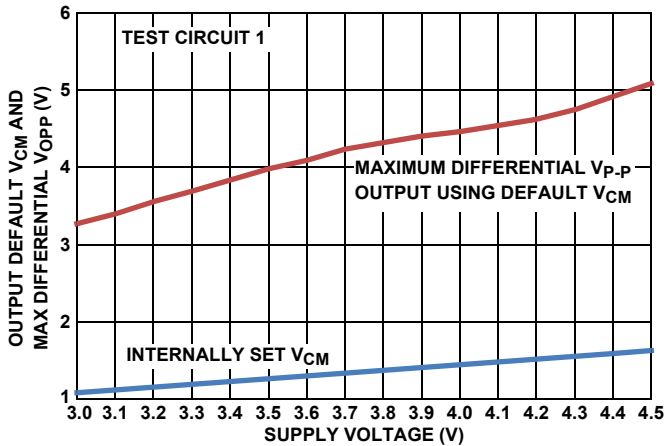
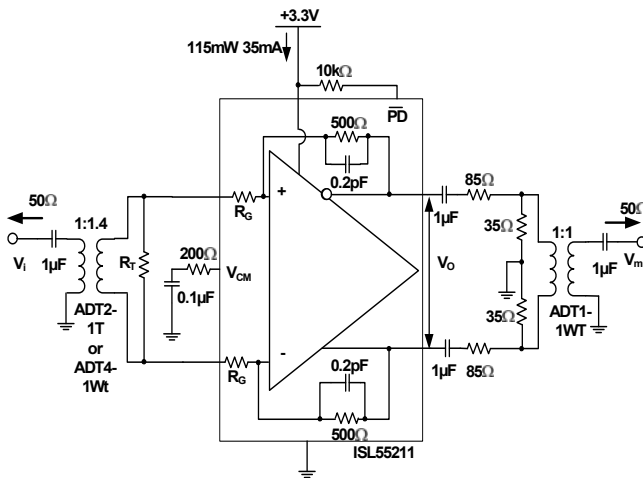
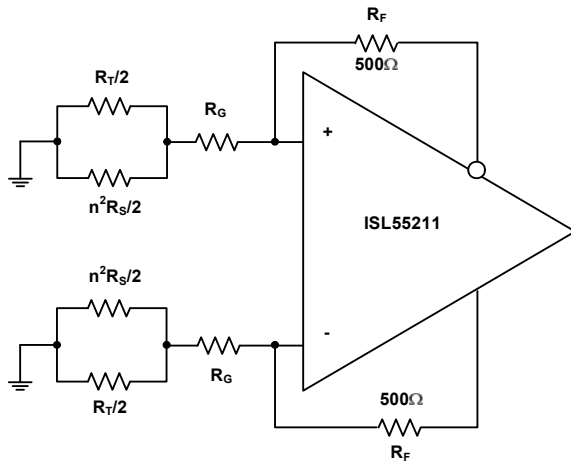
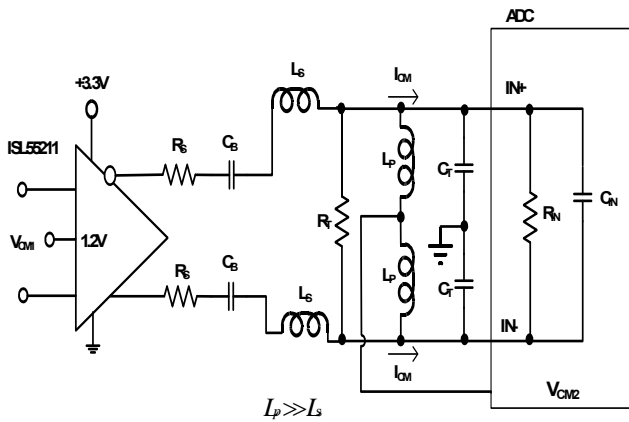

FIGURE 27. DEFAULT  $V_{CM}$  AND MAX  $V_{OPP}$  vs SUPPLY VOLTAGE
FIGURE 29. TEST CIRCUIT 1
FIGURE 35. NOISE GAIN MODEL FOR THE TRANSFORMER COUPLED INPUT CIRCUIT OF FIGURE 29
FIGURE 37. AC-COUPLED, HIGHER FREQUENCY RLC INTERSTAGE FILTER DESIGN
Test Circuit 1 of Figure 29 forms a starting point for many of the characterization curves for the ISL55211. Since most lab sources and measurement devices are single-ended, this circuit converts to differential at the input through a wideband transformer and would also be a typical application circuit coming from a single-ended source. Assuming the source is a 50Ω impedance, the internal  $R_G$  resistors and external  $R_T$  are set to provide both the input termination and the gain. Since the inverting summing nodes act as virtual ground points for AC signal analysis, the total termination impedance across the input transformer secondary will be  $(2 * R_G) || R_T$ . Setting this equal to  $n^2 * R_S$  will give a matched input impedance inside the bandwidth of the transformer (where "n" is the turns ratio). The amplifier gain is fixed by the selected input  $R_G$  element and the internal 500Ω feedback resistors. While the ISL55211 is internally a Voltage Feedback Design (VFA) to give the lowest possible noise, internal compensation caps hold the bandwidth over gain setting approximately constant at 1.4GHz. For wider small signal bandwidth at lower gains, consider the ISL55210, which provides >2.2GHz at a gain of 12dB.
Working with a transformer coupled input as shown in Figure 29, or with two DC blocking caps from a differential source, means the output common mode voltage set by either the default internal  $V_{CM}$  setting, or a voltage applied to the  $V_{CM}$  control pin, will also appear as the input common mode voltage. This provides a very easy way to control the ISL55211 I/O common mode operating voltages for an AC-coupled signal path. The internal common mode loop holds the output pins to  $V_{CM}$  and, since there is no DC path for an  $I_{CM}$  current back towards the input in Figure 29, that  $V_{CM}$  setting will also appear as the input common mode voltage. It is useful, for this reason, to leave any input transformer secondary centertap unconnected. The internally set  $V_{CM}$  voltage is referenced from the negative supply pin. With a single 3.3V supply, it is very close to 1.2V but will change with total supply voltage across the device as shown in Figure 27.
Most of the characterization curves starting with Figure 29 then get different gains by changing the connections to the two pairs of input  $R_G$  connections, as shown on the pin configuration drawing on page 2. Two input turns ratios are intended for Test Circuit 1; either a 1:1.4 turns ratio (ohms ratio of 2) or a 1:2 turns ratio (ohm ratio of 4). The specific transformers shown in Figure 29 are representative of broadband RF transformers but alternate devices and manufacturers of these turns ratio devices are certainly applicable. The output side of this test circuit presents a differential 200Ω load while converting the differential to single-ended through a resistive attenuator and a 1:1 transformer. This inserts approximately a 17dB insertion loss that is removed to report the characteristic curves. For load tests below the 200Ω shown in Figure 29, a simple added shunt resistor is placed across the output pins. For loads > 200Ω, the series and shunt load R's are adjusted to show that total load (including the 50Ω measurement load reflected through the 1:1 output measurement port transformer) and provide an apparent 50Ω differential source to that transformer. This output side transformer is for measurement purposes only and is not necessary for final applications circuits. There are output interface designs that do benefit from a transformer as part of the signal path as shown in Figure 1. In that case, the 1:1.4 output side transformer becomes part of a filter design and recovers the filter insertion loss from the amplifier output pins to the ADC inputs.
The characterization circuit of Figure 29 shows one possible input stage interface that offers several advantages. Where AC coupling is adequate, the circuit of Figure 29 simplifies the input common mode voltage control. If the source coming into this stage is single-ended, the input transformer provides a zero power conversion to differential. The two gain resistors ( $R_G$  in Figure 29) provide both a portion of the input termination impedance and the gain element for the amplifier. For 50Ω systems, these  $R_G$  resistors are too high with the turns ratios shown in Figure 29 to provide the full match and an external  $R_T$  resistor is required. This  $R_T$  element goes away at the highest gain setting using a 1:2 input turns ratio transformer.
This input interface also simplifies the input common mode control. The  $V_{CM}$  pin controls the output common mode voltage. In most DC-coupled FDA applications, the input common mode voltage is determined by both this output common mode and the source signal. In a configuration like Figure 29, there is no path for a common mode current to flow from output to input, so the input common mode voltage equals the output. A similar effect could be achieved with just two blocking caps on the two  $R_G$  resistors. A DC-coupled, single to differential, configuration will also have a common mode input that is moving with the input signal. Converting to just a differential signal at the amplifier, as in Figure 29, removes any input signal related artifacts from the input common mode making the ISL55211 behave as a differential only VFA amplifier. There is only a very small differential error signal at the inputs set by the loop gain, as in a
of 1.3V for instance, then  $1.3V + 0.9V + 1.5V = 3.7V$  will give an unclipped 3.6VP,P output capability. The  $V_{P,P}$  reported in Figure 27 is an asymmetrically clipped maximum swing. Going 10% above this 3.7V target to 4.1V will be within the recommended operating range and give some tolerancing headroom that would also suggest the  $V_{CM}$  voltage be moved up to approximately 1.5V, which coincides with the default output  $V_{CM}$  from Figure 27. Operating at +4.1V single supply in a Figure 29 type configuration will give the maximum linear differential output swing of 3.6VP,P.
The differential inputs internal to the ISL55211 also have operating range limits relative to the supply voltages. Operating in an AC-coupled circuit like Figure 29 will produce an input common mode voltage equal to the outputs. The inputs can operate with full linearity with this  $V_{CM}$  voltage down to 1.1V above the  $-V_S$  supply. On the default 1.2V output  $V_{CM}$  on +3.3V supplies this gives a 100mV guardband on the input  $V_{CM}$  voltages. Overriding the default  $V_{CM}$  by applying a control voltage to the  $V_{CM}$  pin should be done with care in going towards the negative supply due to this limit. On the + side, the maximum input  $V_{CM}$  above the  $-V_S$  supply is 2V so there is more room to move the output  $V_{CM}$  up than down from the default value.
+85°C maximum operating ambient from Figure 27, we get  $4.5V \times 45mA \times 120^\circ C/W = +24^\circ C$  rise above +85°C or approximately +109°C operating  $T_j$  maximum - still well below the specified Absolute Maximum operating junction temperature of +135°C.
Adding an input transformer can improve the input referred noise by adding a noiseless voltage gain. Starting from Test Circuit 1 of Figure 29, and assuming the source shows a matched broadband source  $R_S$  that will be matched by the input referred parallel combination of  $2 * R_G || R_T$ , a noise gain analysis circuit can be developed as shown in Figure 35.
Stepping through the 3 gain settings with two input transformers will allow the noise gain to be calculated for the circuit of Figure 35, which is all that is needed in Equation 1 to arrive at an output differential noise (since  $R_F$  is fixed at 500Ω). Doing this gives Table 4.
2. AC-coupled, higher frequency range interstage filter design. This design replaces the  $R_T$  resistors in Figure 35 with large valued inductors and implements the filter just using shunt resistors at the end of the RLC filter. In this case, the ADC  $V_{CM}$  can be tied to the centerpoint of the bias path inductors (very much like a Bias-T) to provide the common mode voltage and current to the ADC inputs. These bias inductors do limit the low frequency end of the operation where, with  $1\mu\text{H}$  values, operation from 10MHz to 200MHz is supported using the approach of Figure 37.